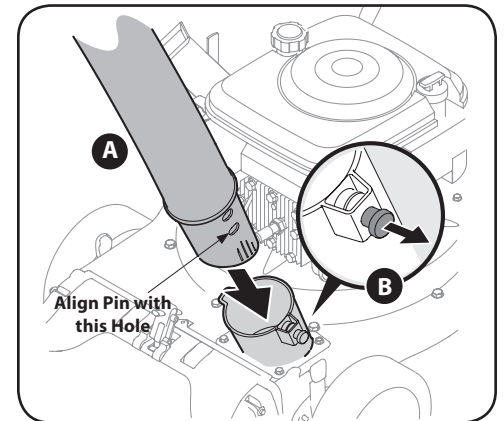

Figure 3-4
1. Slide hose adapter of hose assembly into the base adapter located on the left front of the chipper shredder vacuum. See A in Figure 3-4.
2. Pull spring loaded pin out on the base and align pin with the first hole (closest to the end of the tube) in the hose adapter. See B in Figure 3-4.